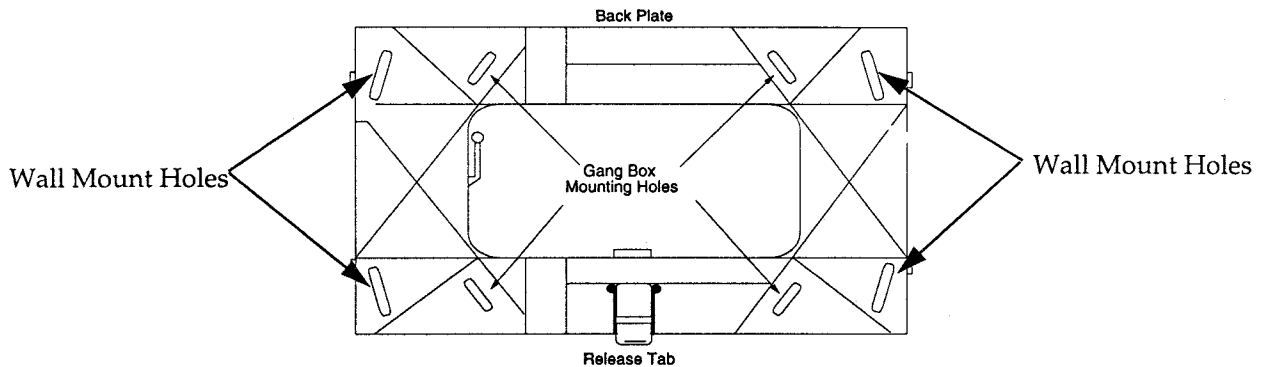

Figure 3.6. Alphanumeric Touchpad Wall Mount Installation
2. Place the Back Plate (Figure 3.6) on the gang box so the four inner slots on the Back Plate line up with the four outer holes of the gang box.